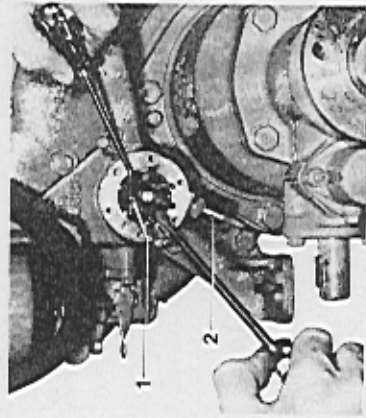

Fig. 25. Removing impeller
1. Remove the cover from the sea-water pump. **Note the risk of water getting into the boat.** With the help of two screwdrivers pull the shaft with the pump impeller out of the housing as far as necessary to reach the bolt retaining the impeller. See Fig. 25. **NOTE.** Place some kind of protection under the screwdrivers in order not to damage the impeller housing.